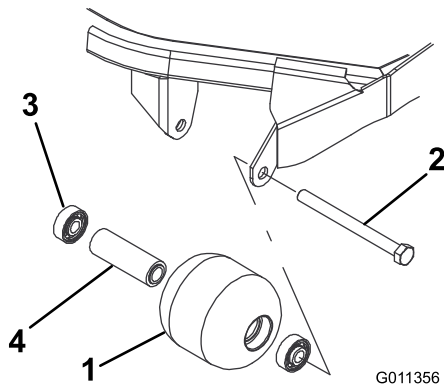

Figure 91
1. Remove the roller mounting bolt (Figure 91).
4. Inspect the roller housing, bearings, and bearing spacer for damage (Figure 91). Replace damaged components and assemble.
1. Press the first bearing into the roller housing (Figure 91). Press on the outer race only or equally on the inner and outer race.
2. Insert the spacer (Figure 91).
3. Press the second bearing into the roller housing (Figure 91) by pressing equally on the inner and outer race until the inner race comes in contact with the spacer.